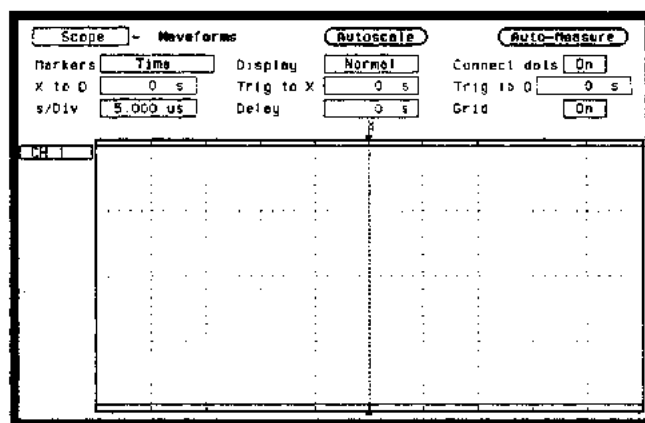

Figure 3-56. Waveforms Display Menu Configuration
7. Press **DISPLAY** and set **Markers** to **Time**, **Display** to **Normal**, **Connect dots** **On**, and **Grid** **On** as in figure 3-56.